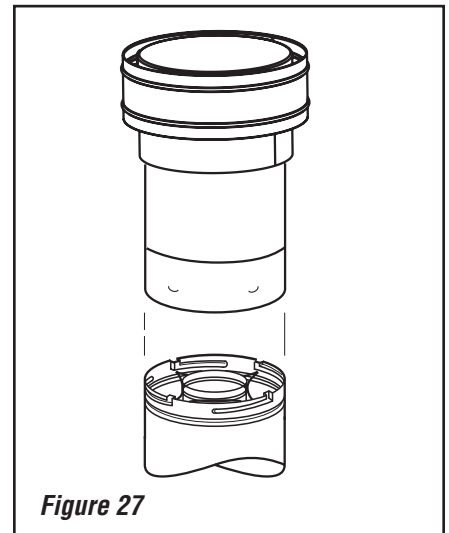

Figure 27
K. Install the vertical termination - The final step involves installation of the SV4.5CGV-1 Vertical Termination. Extend the vent sections to the height as shown in the "Vertical vent termination section" on **Page 9**. The SV4.5CGV-1 Vertical Termination (**Figure 27**) installs in the exact same fashion as any other **Secure Vent** section. Align the termination over the end of the previously installed section, adjusting the radial alignment until the four locking dimples of the termination are aligned with the inlets of the four incline channels of the last vent section. Push the termination down until it fully engages, then twist the termination clockwise running the dimples down and along the incline channels until they seat at the end of the channels.